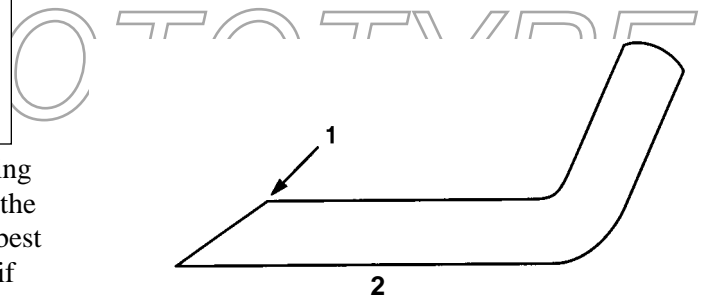

Figure 18
5. Inspect the cutting edges of all blades. Sharpen the cutting edges if they are dull or nicked. Sharpen only the top of the cutting edge and maintain the original cutting angle for best performance (Fig. 18). The blade will remain balanced if the same amount of metal is removed from both cutting edges.